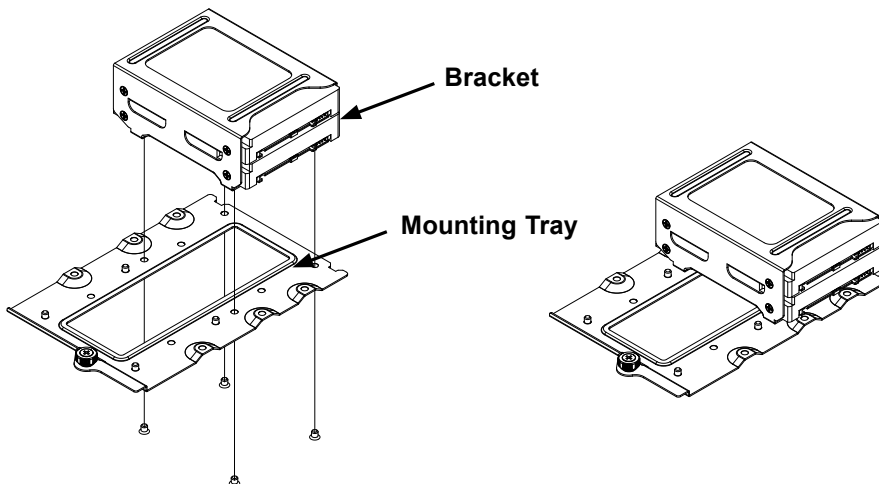

Figure 3-6. Securing the Bracket to the 2.5" Mounting Tray
4. Secure the bracket to the optional HDD mounting tray. (Figure 3-6)